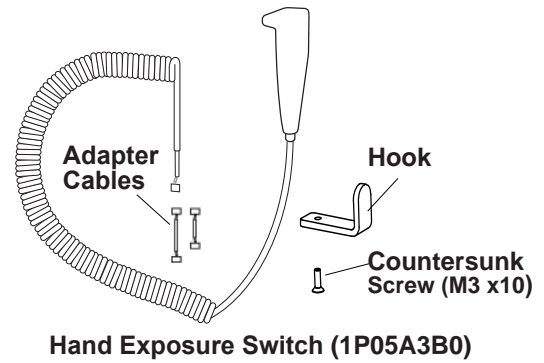

Fig.3-23 Hand Exposure Switch Kit
1. Confirm the hand exposure switch kit contains: a hand exposure switch, two adapter cables, a hook and a screw for hook (M3 x10mm). (Fig.3-23)
2. Connect the red adapter cable (longer cable) to the connector of the hand exposure switch. (Fig.3-23)